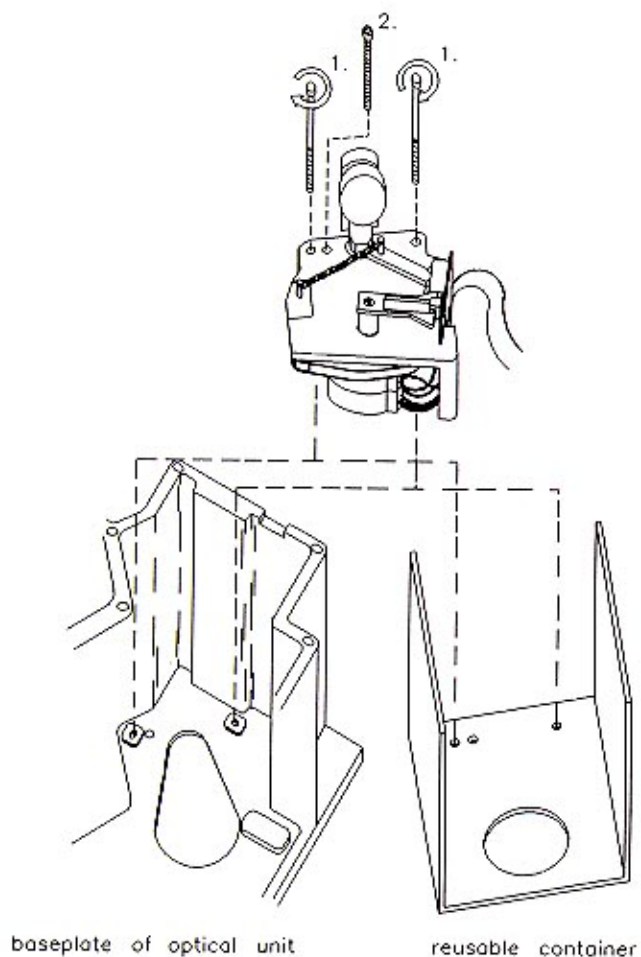

Figure 3.2-1
3. Unscrew the hexagonal screw (item 2 in figure 3.2-1), located on top of the grating assembly.
4. Take the two hexagonal screws (item 1 in figure 3.2-1) (0515-0827) from the product support package. Insert them into the holes as shown in figure 3-2.1. Using them as a handle, move the grating assembly slightly backwards and forwards and then remove the grating assembly. Place the grating assembly carefully on the bench, see figure 3.2-1.